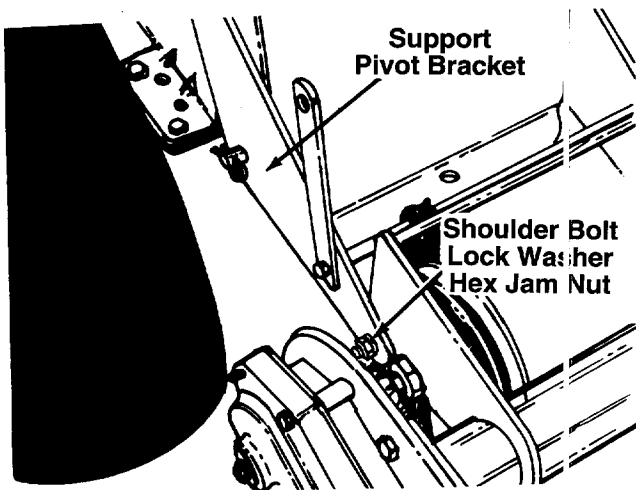

FIGURE 9.
18. Secure the left hand side of tiller to the support pivot bracket using shoulder bolt, lock washer and hex jam nut provided. Head of the shoulder bolt must be to the inside of the tiller. See figure 9. ←
19. Thread the adjustment ferrule (P) onto the end of the lift rod assembly a few turns. Slide the ferrule and the lift rod assembly through the slot in the right hand tractor fender.